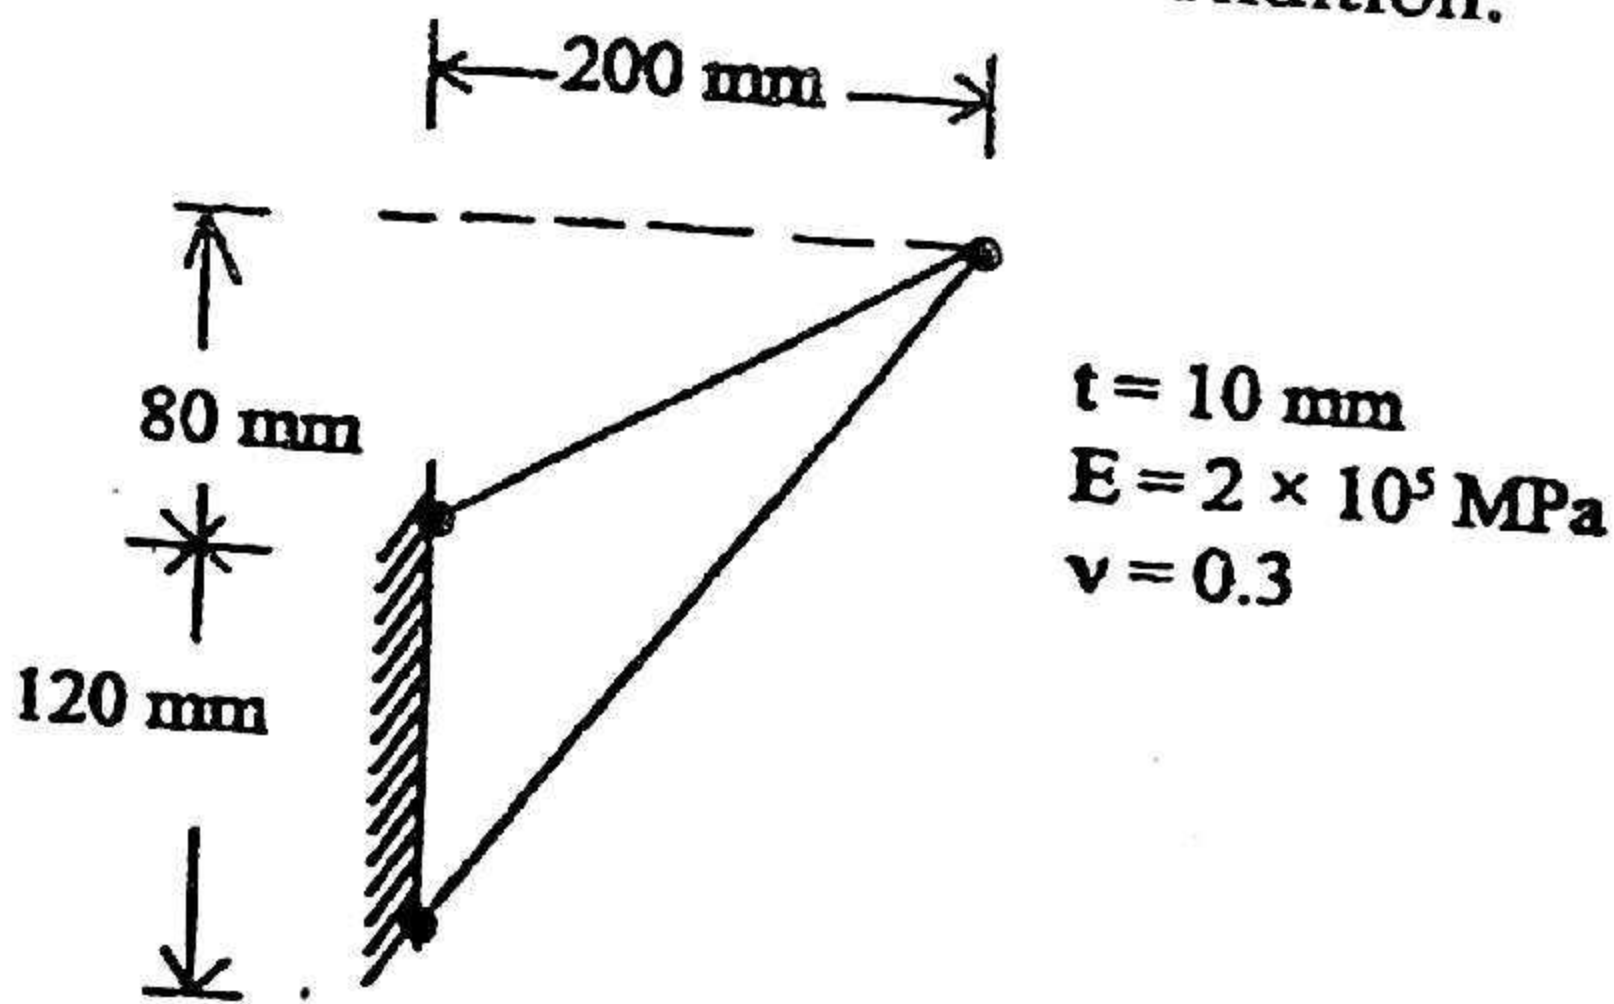

Fig. 9
- (b) What do you understand by shape function? Name the various shape functions used for one dimensional finite element modelling. (3)
9. A two dimensional plate shown in Fig. 9. The thickness of plate is 10 mm and elastic modulus $E = 2 \times 10^5 \text{ MPa}$ and Poisson ratio $\nu = 0.3$. Neglecting body force and traction force determine the nodal displacement using plane stress condition. (13)